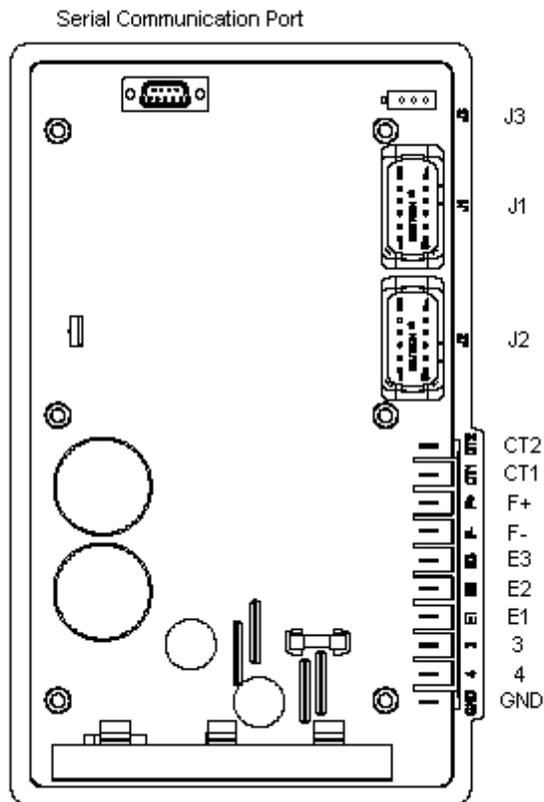
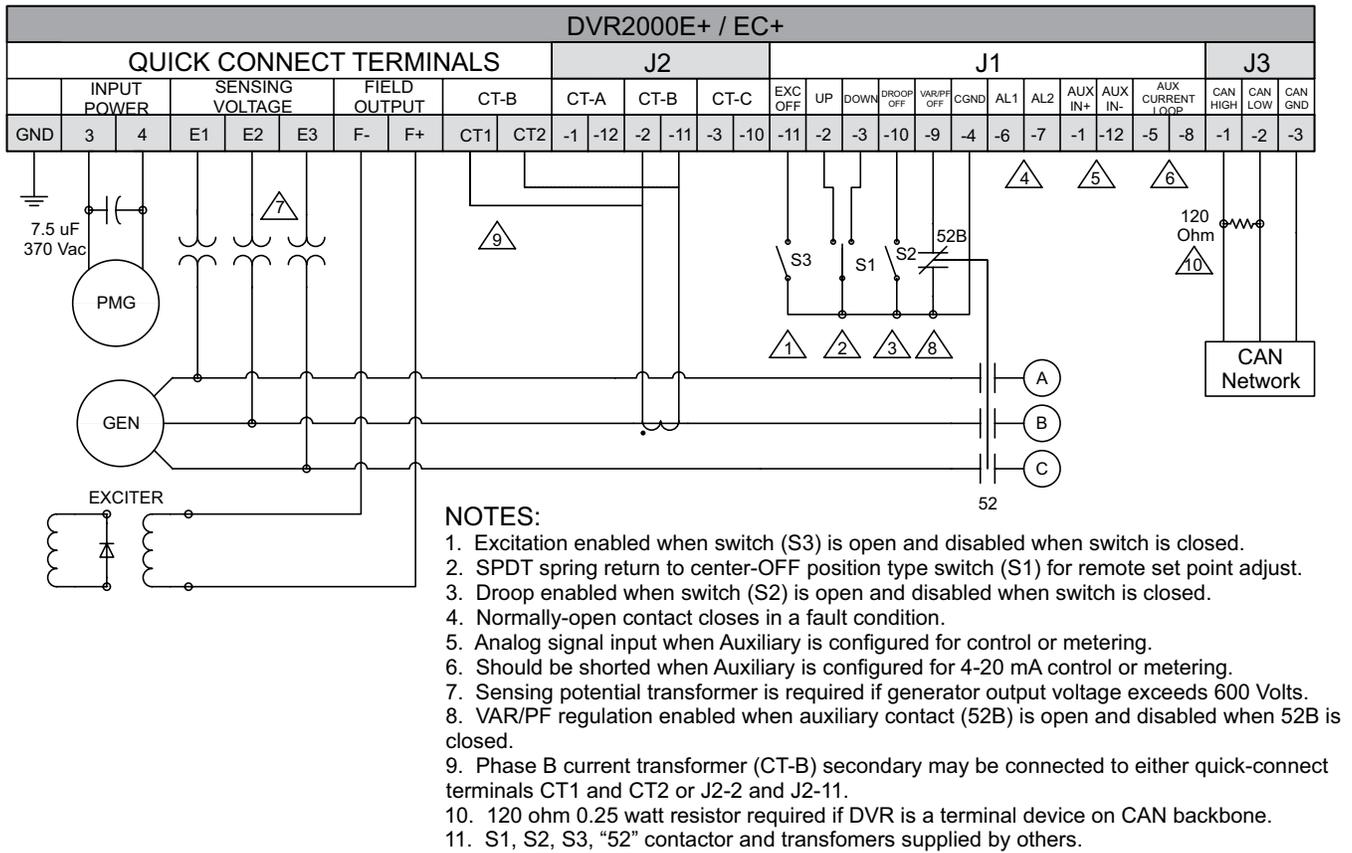

Figure 5-4. DVR® Rear Panel Connectors
Figure 5-9. Typical Connections with ABC Rotation, Three-Phase Voltage Sensing and Single-Phase Current Sensing
Figure 5-4 shows the quick disconnect terminal connections located on the rear panel of the DVR[®].
Generator line current is stepped down through a user-supplied CT on Phase B. Secondary current (5A) from that transformer is applied to terminals labeled CT1 and CT2. Consult current transformer instruction manuals for CT polarity identification and install per Figure 5-9. See Figure 5-4 and Table 5-1 for terminal assignments.
- Figure 5-9 shows an application where the regulator is connected for three-phase voltage sensing and single-phase current sensing.